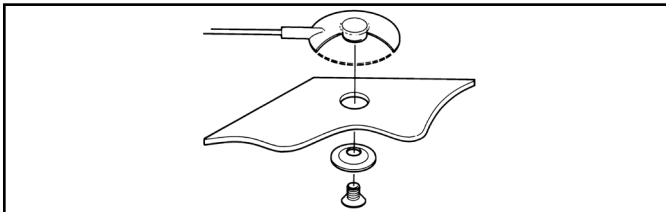

Figure 5. Screw allows ground cord to be bolted to mat to keep cord from disconnecting
4. Route the mat monitor cord from the back of the monitor to the worksurface mat. Use either the included push and clinch snap or washer and screw to secure the cord to the mat (see Figure 5). The worksurface mat requires a separate ground cord (not included).